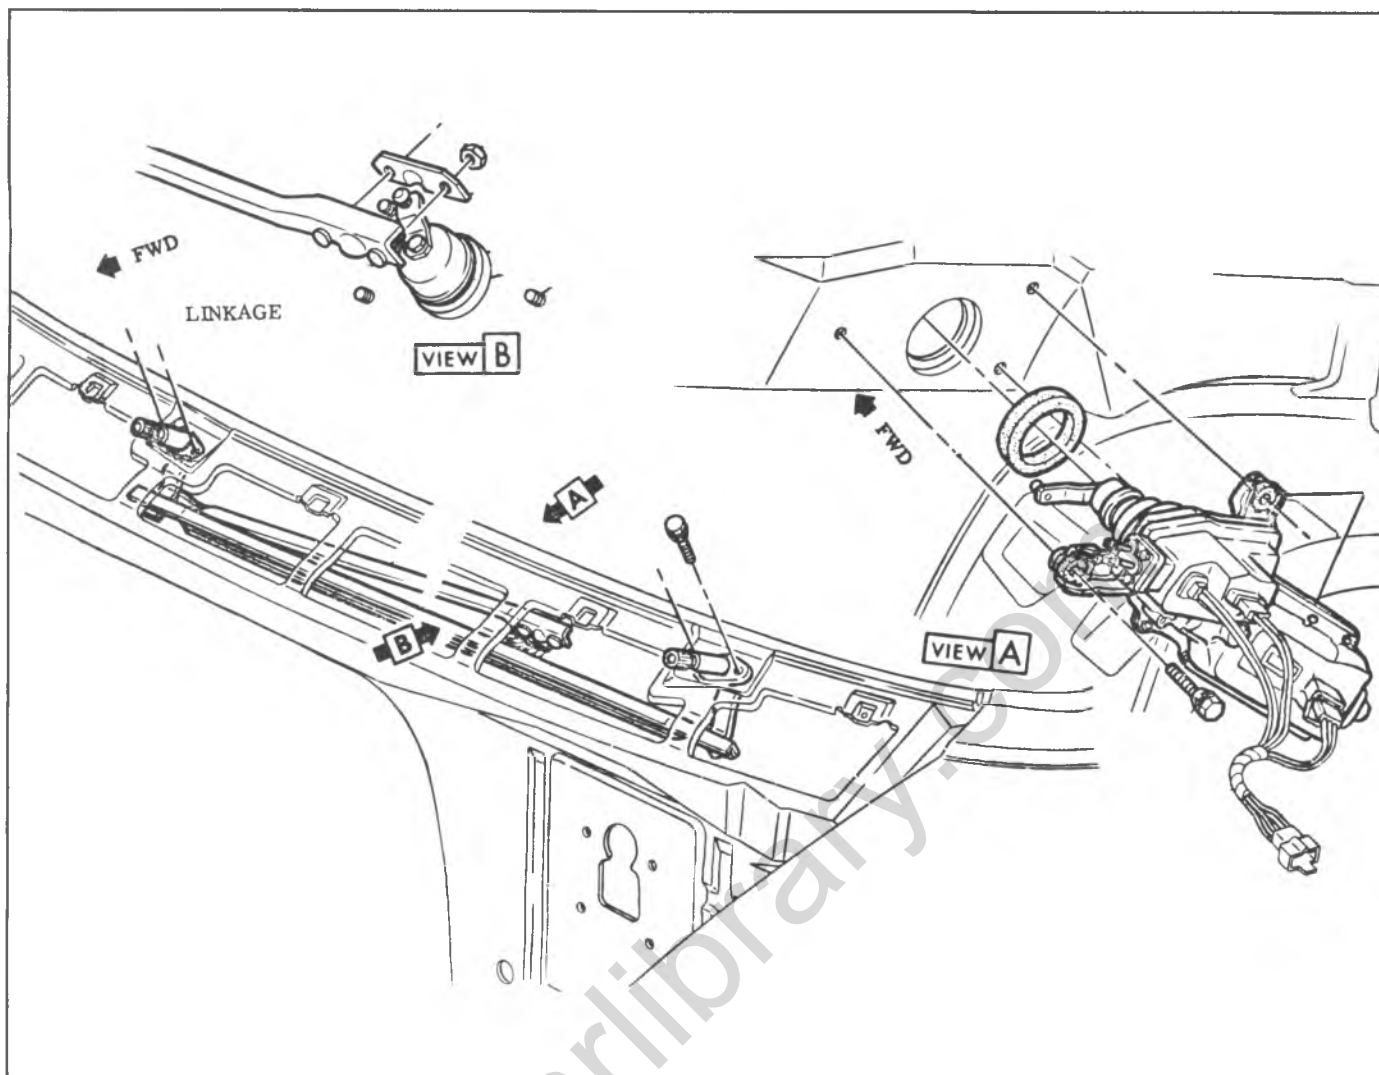

Fig. 8C-18--Wiper Motor (G Series)
1. Release brush spring tension figure 8C-21 and slide brushes back in their respective brush holders.
2. Assemble armature in end cap assembly and reposition brush spring legs behind their respective tabs, figure 8C-22.
3. To maintain the end cap in its assembled position on armature shaft during re-assembly of armature in the wiper housing proceed as follows: Using small wire such as tag wire, tie armature to end cap assembly as shown in figure 8C-23.
CRANK ARM, SPACER, SEAL Refer to Figure 8C-24